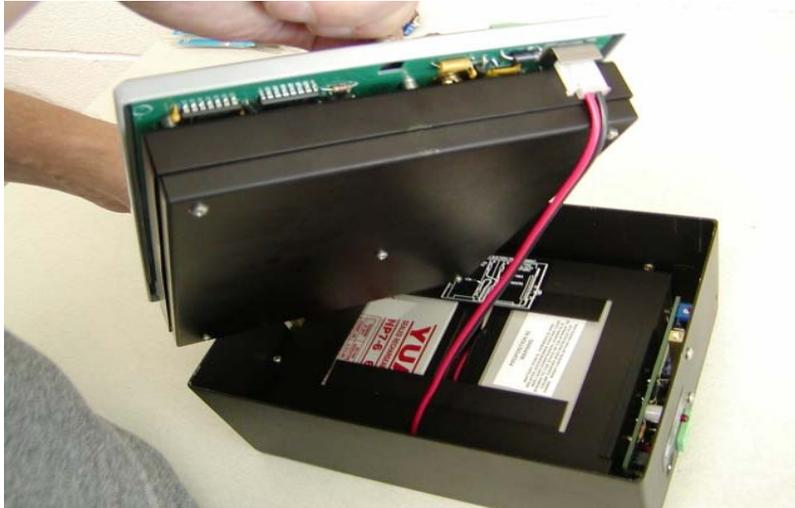
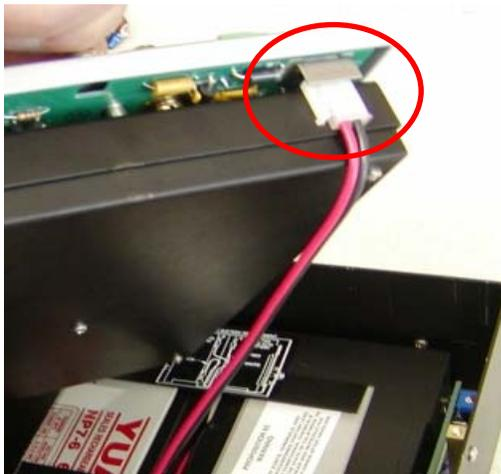

Figure 9
Figure 10
- c) Pull datalogger faceplate away from the battery/charger base to access the power connector (see Figure 9). Grab the white power connector that contains the black and red wires (the only connector going to the logger). Pinch the tab along the side and pull downward to disconnect the connector (see Figure 10).